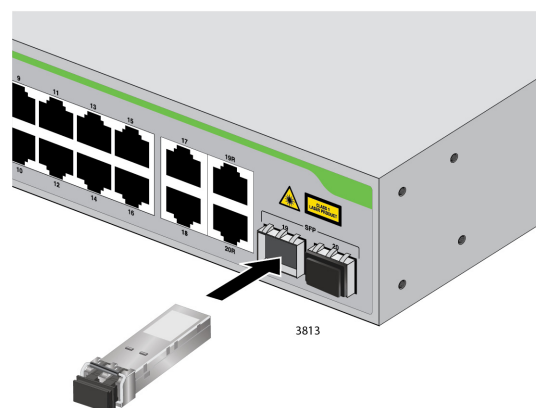

Figure 11. Inserting the SFP
3. Slide the transceiver into the SFP slot until it clicks into place. See Figure 11.